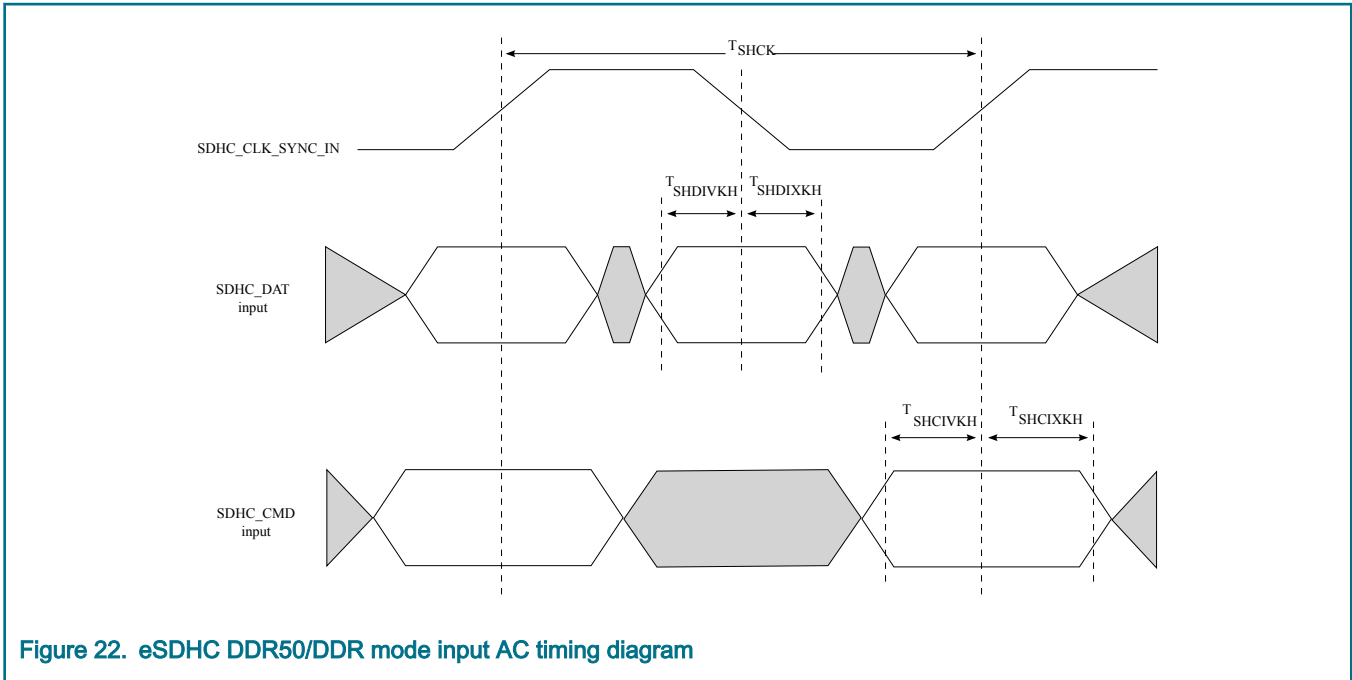

Figure 22. eSDHC DDR50/DDR mode input AC timing diagram
3. The symbols used for timing specifications herein follow the pattern of t_{(first two letters of functional block)(signal)(state) (reference)(state)} for inputs and t_{(first two letters of functional block)(reference)(state)(signal)(state)} for outputs. For example, t_{SHCKHOX} symbolizes eSDHC highspeed mode device timing (SH) clock reference (K) going to the high (H) state, with respect to the output (O) reaching the invalid state (X) or output hold time. Note that in general, the clock reference symbol is based on five letters representing the clock of a particular functional. For rise and fall times, the latter convention is used with the appropriate letter: R (rise) or F (fall).
4. See Figure 22.
2. The symbols used for timing specifications herein follow the pattern of t_{(first two letters of functional block)(signal)(state) (reference)(state)} for inputs and t_{(first two letters of functional block)(reference)(state)(signal)(state)} for outputs. For example, t_{SHCKHOX} symbolizes eSDHC highspeed mode device timing (SH) clock reference (K) going to the high (H) state, with respect to the output (O) reaching the invalid state (X) or output hold time. Note that in general, the clock reference symbol is based on five letters representing the clock of a particular functional. For rise and fall times, the latter convention is used with the appropriate letter: R (rise) or F (fall).
3. See Figure 22.